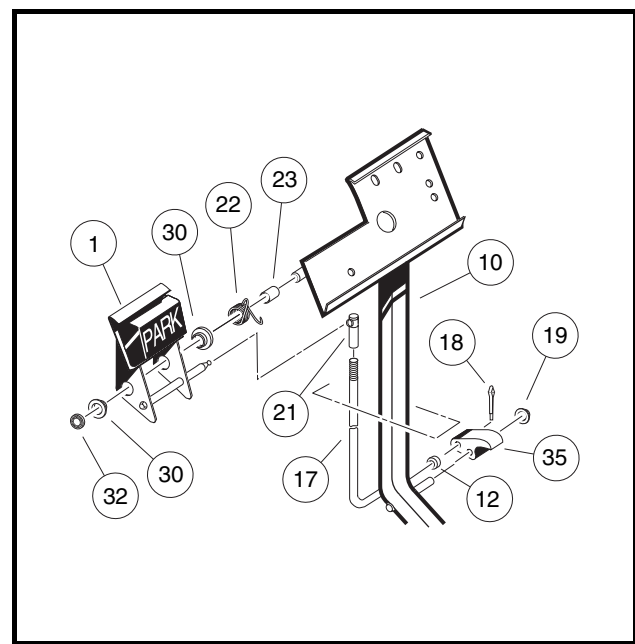
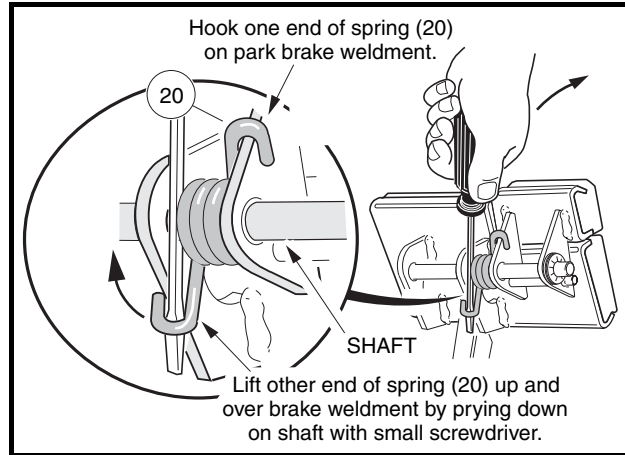

Figure 5-4 Park Brake Assembly
Figure 5-5 Torsion Spring Installation
**NOTE:** New push nuts (19) and (32) must be used when reassembling the park brake (**Figure 5-4, Page 5-4**).
- 3.2. To remove the park brake pedal (1), remove the push retainer nut (32), disconnect the torsion spring (22) (**Figure 5-4, Page 5-4**) and slide the pedal off of the shaft. See preceding **NOTE.**
1. From the bottom side of the floorboard, insert the park brake rod (17) through the brake pedal assembly opening as shown (**Figure 5-4, Page 5-4**). Then install the park brake pawl (35) onto the shaft on the brake pedal assembly (10) and also insert the park brake rod (17) into the park brake pawl.
2. Install the push nut (19) on to the park brake pawl shaft.
3. Install the spacer (23) and torsion spring (22) on the park brake pedal shaft on the brake pedal assembly.
4. Install the two bushings (30) in the park brake pedal and position the park brake pedal on the shaft on the brake pedal assembly weldment (10) (**Figure 5-4, Page 5-4**). Then attach the ends of the torsion spring to the park brake pedal and to the brake pedal weldment as shown (**Figure 5-5, Page 5-6**).
5. Install the push nut (32) on the park brake pedal shaft (**Figure 5-4, Page 5-4**).
6. Connect park brake rod (17) with ball joint (21) to the ball stud on the park brake pedal assembly (**Figure 5-4, Page 5-4**).